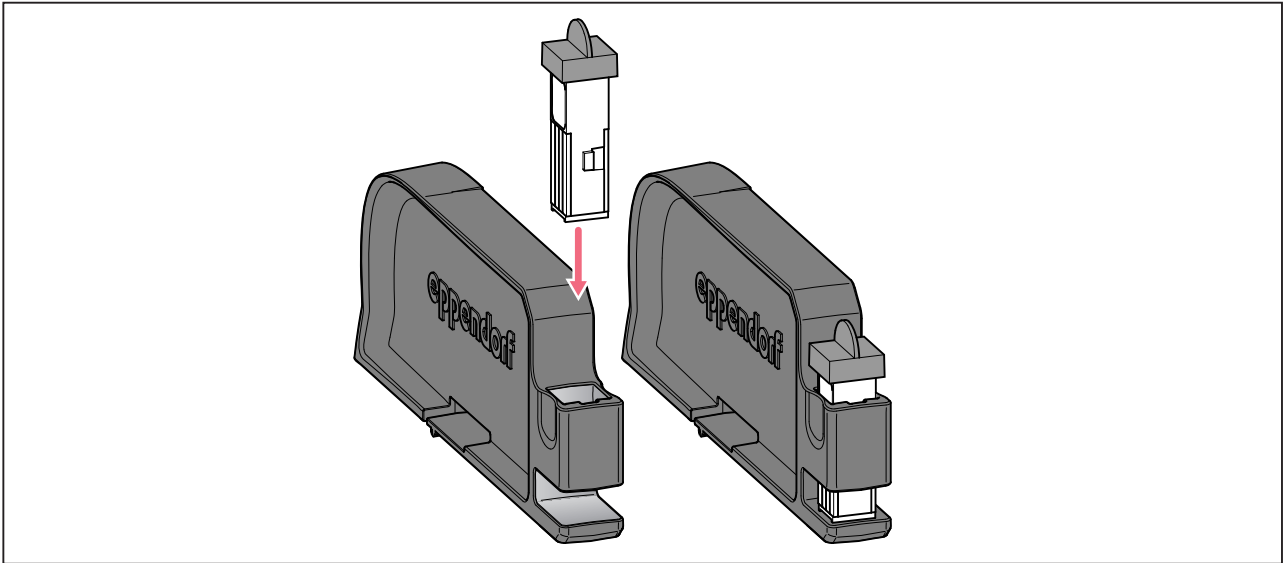

Fig. 5-3: Insert the electroporation cuvette
6. Insert the electroporation cuvette into the cuvette holder with the plastic nose pointing towards the back.(Fig. 5-3 on p. 17)